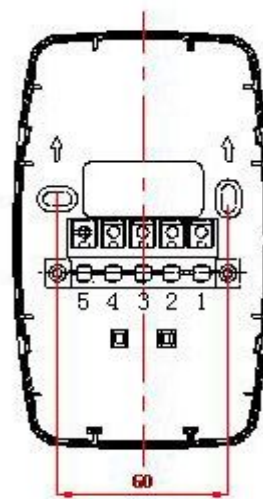
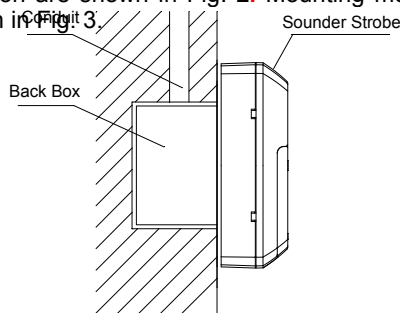

Fig. 2
Fig 3 Installation
Terminals on the base are shown in Fig. 2.
- ✧ the sounder strobe can be mounted on the back box. The mounting hole spacing and mounting direction are shown in Fig. 2. Mounting method is shown in Fig. 3.